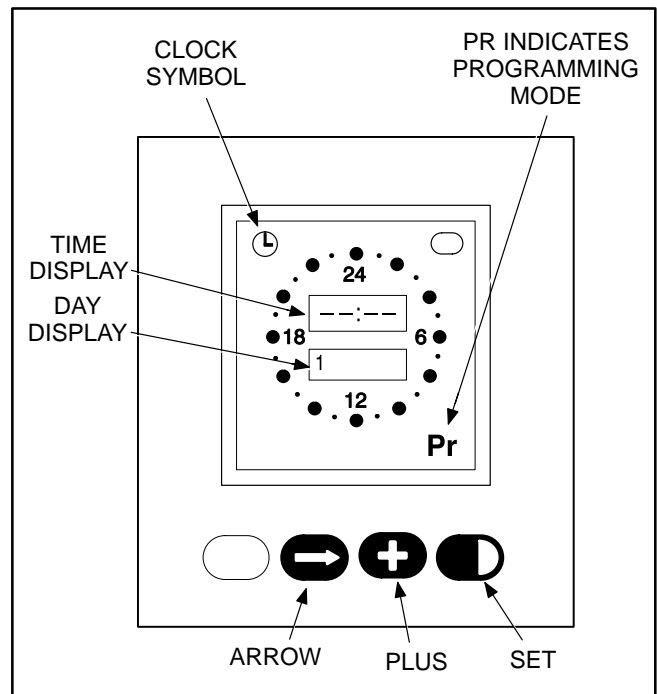

FIGURE 4-7. EXERCISER CLOCK
1. With the exerciser clock powered, press all three buttons simultaneously to reset the time. The time display area will show (-- : --) and a small clock symbol will appear in the upper left-corner of the display. Refer to Figure 4-7.